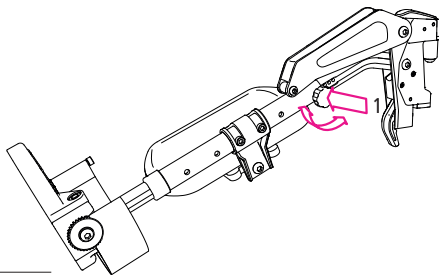

Fig. 41
2. Now you can adjust the leg rests to the desired angle (2, Fig 41).
4. Finally, tighten the screw hand-tight again (1, Fig. 41).